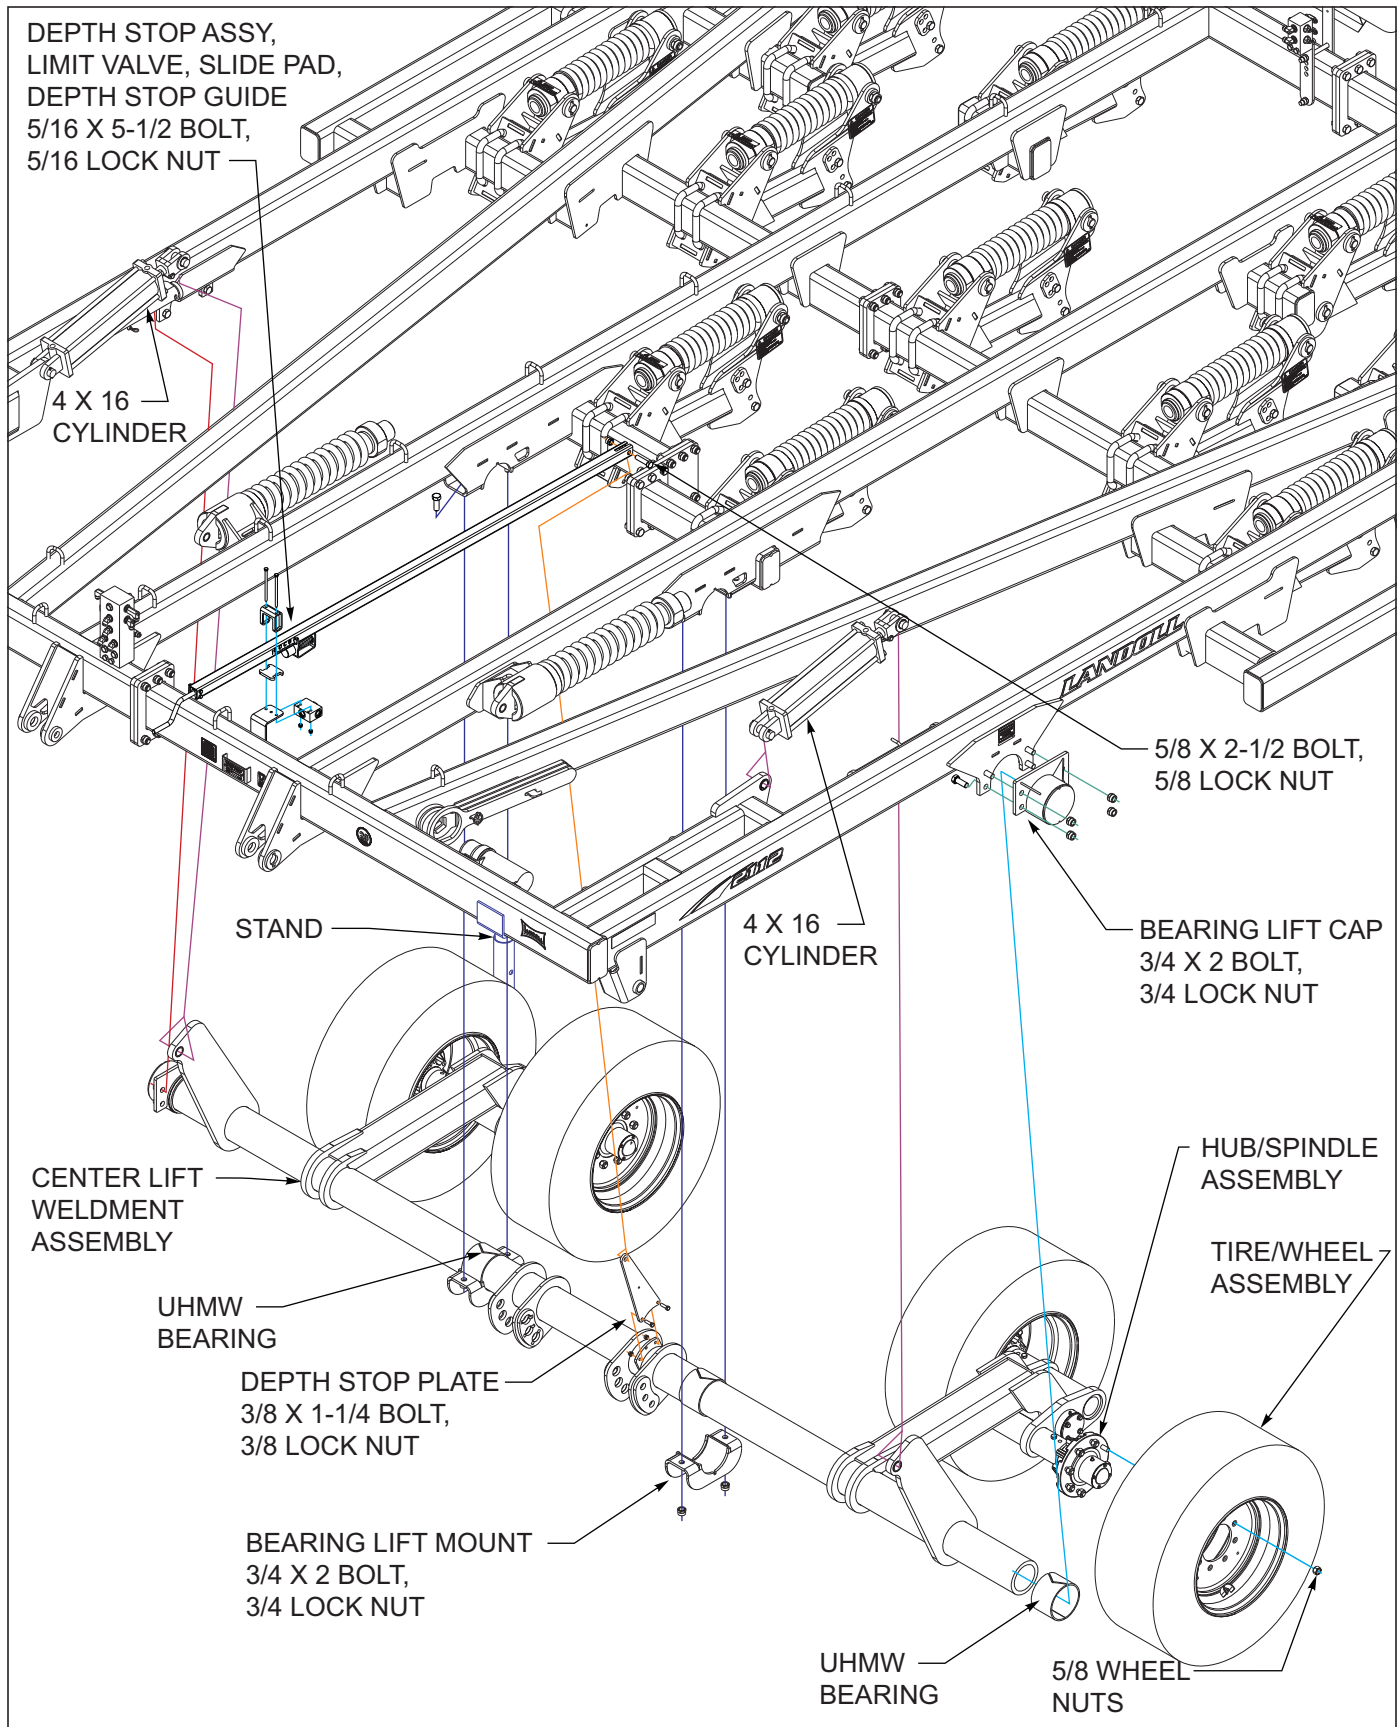

Figure 3-6: Center Frame Lift Assembly 2112-13-15
4. Install a UHMW bearing between both inner bearing locators around the center lift assembly See Figure 3-6.
9. Install the 4 x 16 lift cylinders, base end to ears on frame and rod end to center lift weldment assembly as shown See Figure 3-6 with cylinder pins provided. Install with ports facing upwards.
11. Install the 340/65 R18 tire/wheel assemblies to all hub/spindle assemblies using 5/8 wheel nuts, See Figures 3-6. Torque to 85-100 ft/lbs.